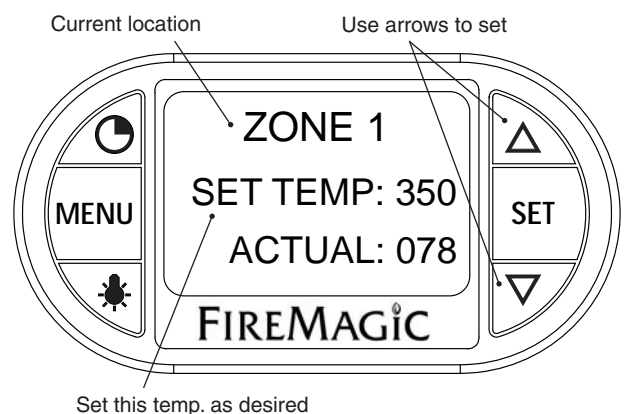

Fig. 19-4 Location temp. screen (zone 1 shown)
2. The selected location's temperature screen will be displayed. Use the arrows to set the desired temp. The actual temp. will also be shown. (See Fig. 19-4.)